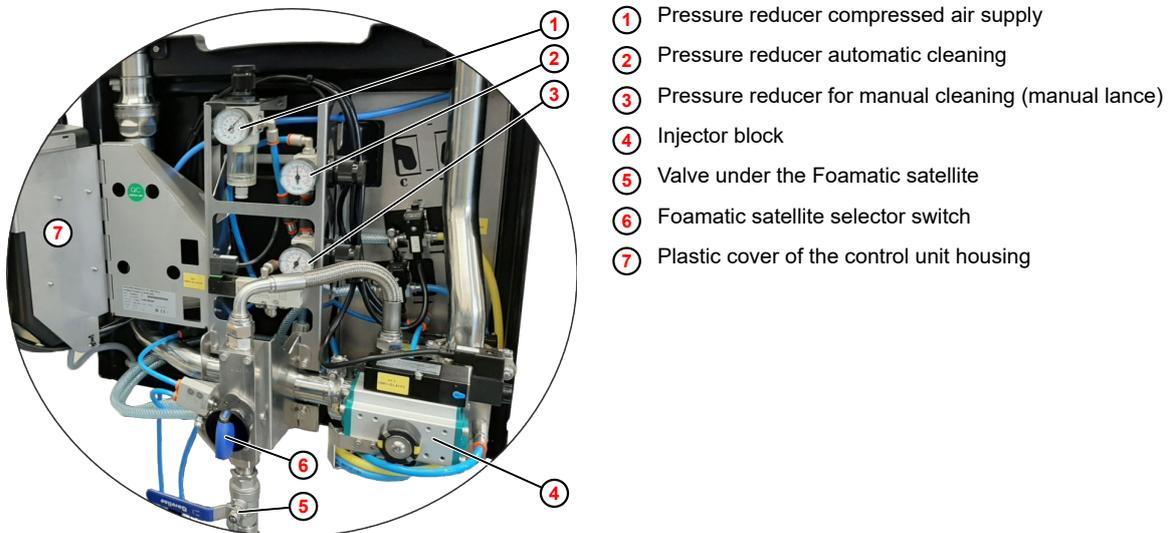

Fig. 38: Compressed air supply
3. Set the compressed air at the pressure reducer Fig. 38 ① to approx. 4 bar.